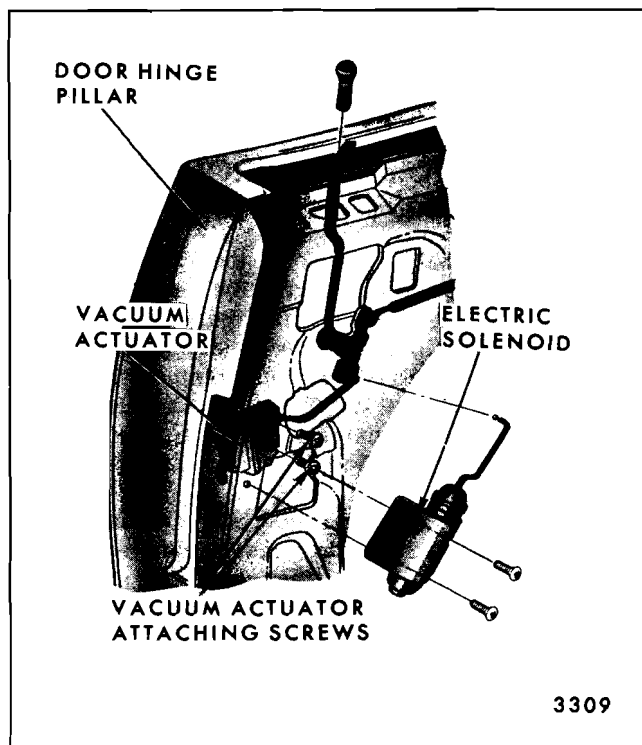

Fig. 6-28—Rear Door Lock Vacuum Actuator or Electric Solenoid Installation
4. On rear doors, remove vacuum actuator or electric solenoid to door inner panel attaching screws and connecting rod to door inside locking rod connecting link attaching clip. Remove through access hole (Fig. 6-28).